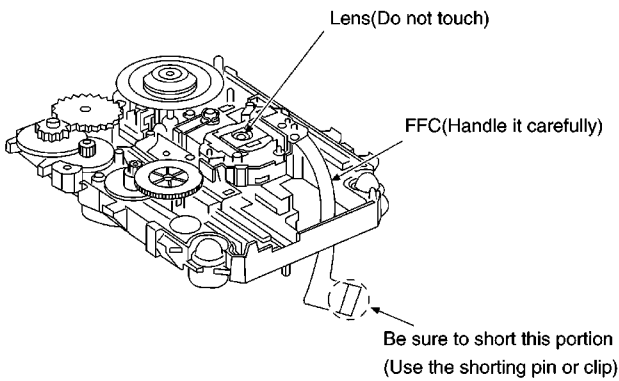

Fig. 2-1.
2. To prevent the breakdown of the laser diode, an anti-static shorting pin is inserted into the flexible board (FFC board). When removing or connecting the shorting pin, finish the job in as short time as possible. Refer to Fig. 2-1.